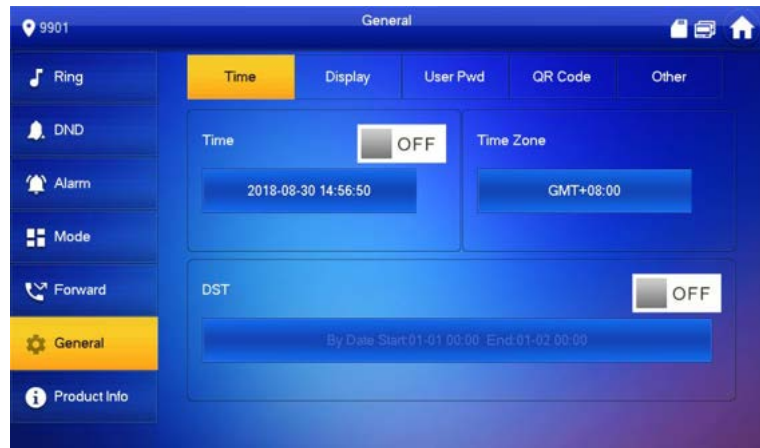

Figure 6-14
- 2) Press time zone text box, and select local time zone, as shown in Figure 6-14.